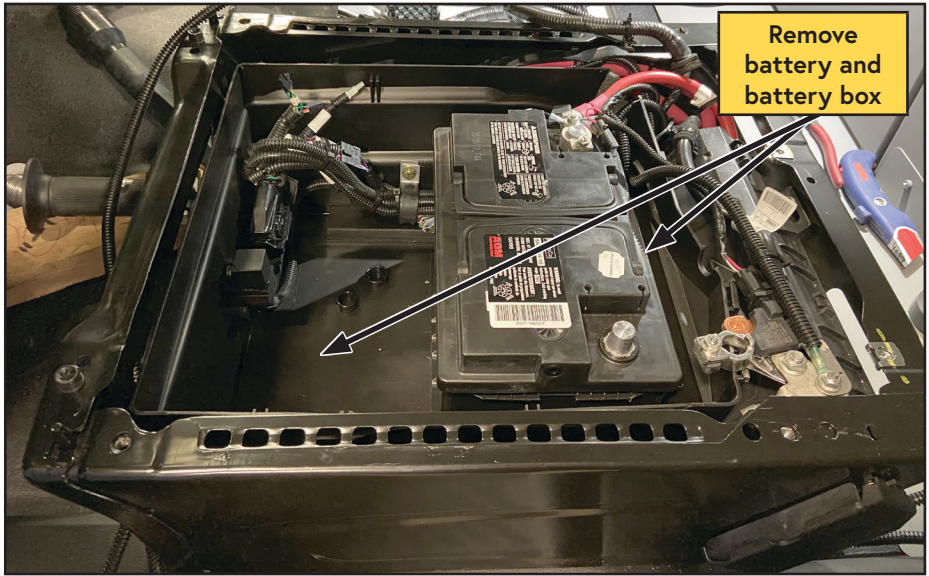

Figure 48 — Remove battery box
- Remove the battery and battery box (Figure 48).